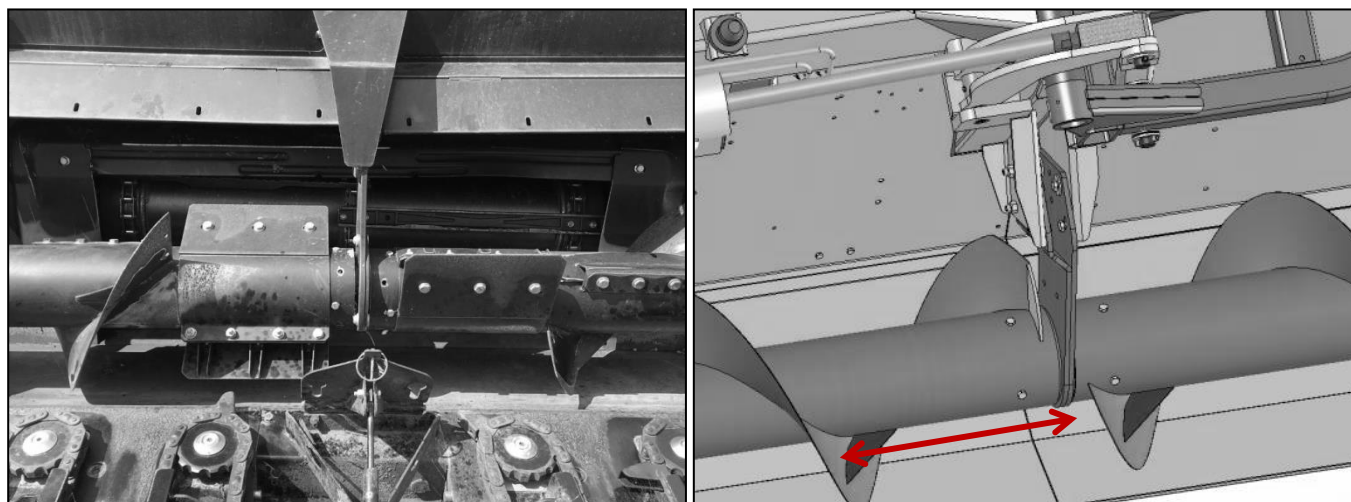

Figure 23: Center bearing support auger (w/paddles), left, and folding auger wing timing, right.
13.12.1. For center bearing supported augers, flighting should be offset 180 degrees at center to feed combine smoothly. When paddles/fingers are installed, they should be offset 90 degrees (Figure 23). Adjust via clocking auger drive chain.
13.12.2. For folding headers, ensure flighting pitch is 18°-20° across wing joint (Figure 23, red arrow). The center auger flighting should lag the wing auger flighting to avoid binding of material flow. Adjust auger drive dog on wing to correct timing if needed. See operator’s manual for further detail.